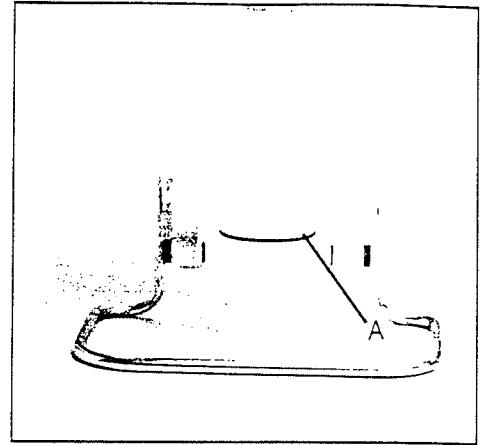

Figure 21
- 1) With the large clamp at the bottom of the tank removed, the pressure cylinder will push out through the bottom of the tank. (See Figure 21).
- 2) Once the pump cylinder is removed, the large O-ring (A) can be replaced. (See Figure 21). Note: The new o-ring should be slid onto the pressure cylinder from the top to the recess. It should not be stretched over the flange at the bottom.